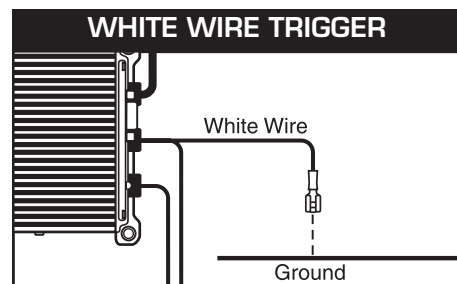

Figure 2 Checking for Spark with the White Wire.
5. Tap the White wire to ground several times (Figure 2).